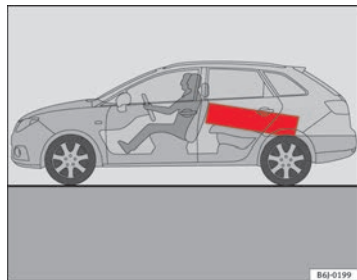

Fig. 90 Position heavy items as far forward as possible.
- Position heavy items as far forward as possible ⇒ fig. 90.